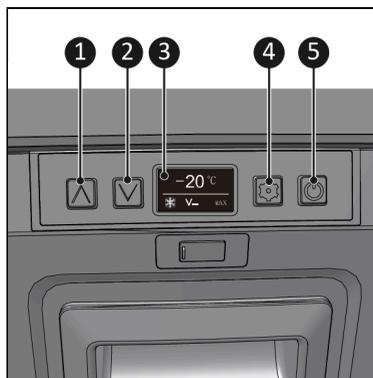

Figure 14.
1. Press the ON/OFF button (Figure 14, pos. 5) for 5 seconds.
1. Press the 'increase temperature' or 'decrease temperature' button (Figure 14, pos. 1 & 2) to set the desired temperature.
1. Press the settings button (Figure 14, pos. 4) until °C or °F flashes.
1. Press the settings button (Figure 14, pos. 4) until V₋, V₌ or V_≡ flashes.
1. Press the settings button (Figure 14, pos. 4) until MAX or ECO flashes.
1. Switch off the device by pressing the ON/OFF button (Figure 14, pos. 5) for 5 seconds.